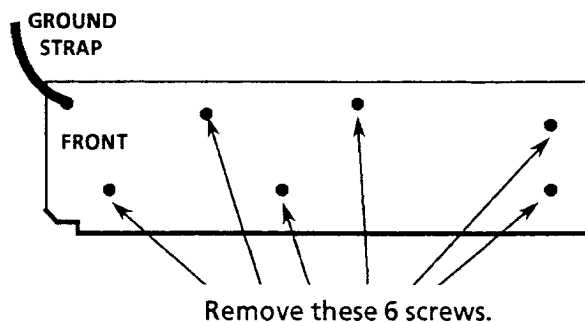

Figure 8-21: Screws holding the Power Supply board (A1) in place
4. Remove the six screws that are holding the Power Supply board down. See Figure 8-21.